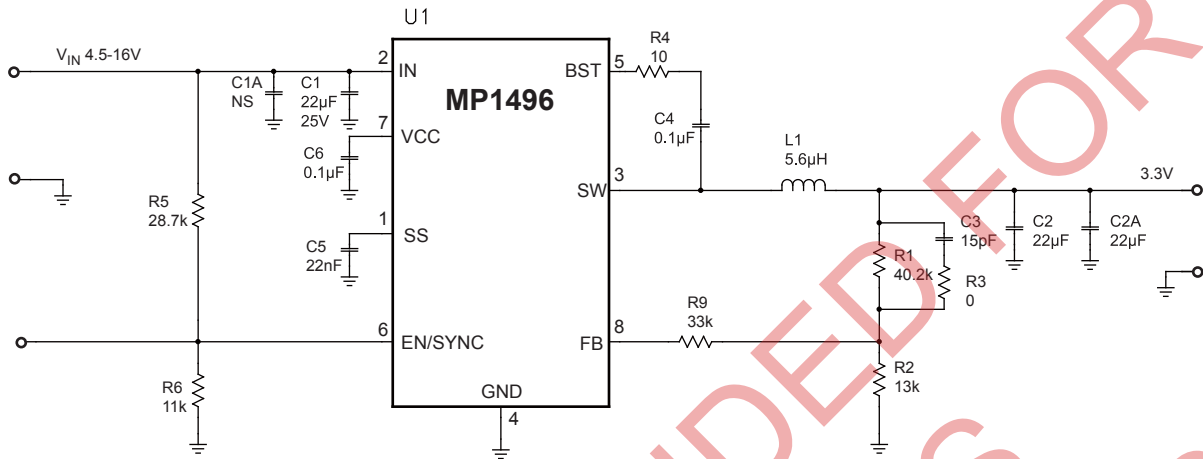

Figure 6: 12V_{IN}, 3.3V/2A
- 8) The recommended layout is based on the Figure 6 Typical Application circuit on the last page.